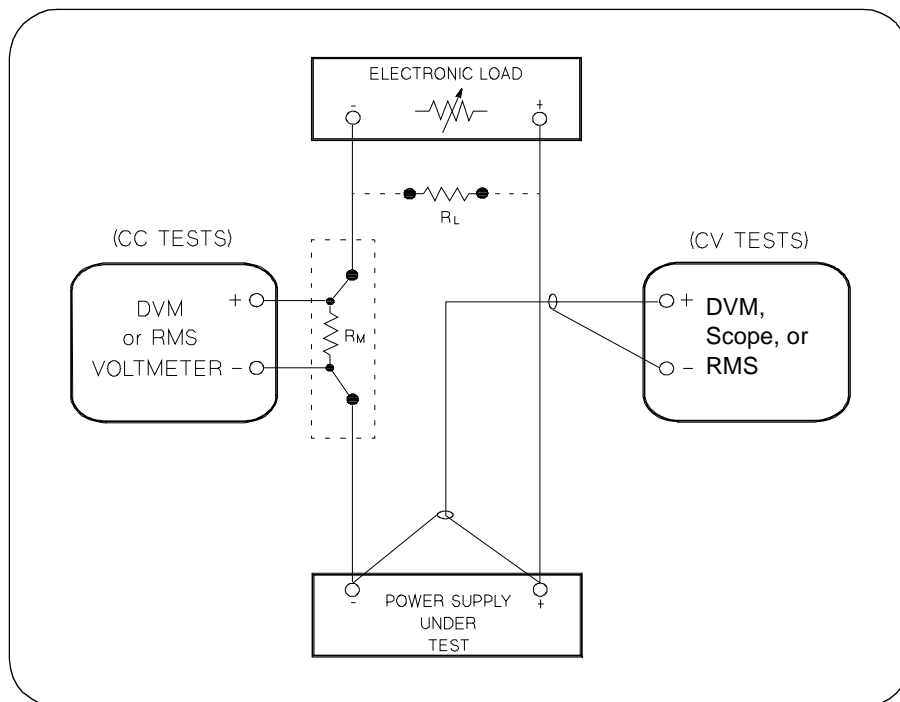

Figure A-1 Performance Verification Test Setup
Most tests are performed at the front terminals as shown in Figure A-1. Measure the dc voltage directly at the (+) and (-) terminals on the front panel.
To eliminate output current measurement error caused by the voltage drops in the leads and connections, connect the current monitoring resistor between the (-) output terminal and the load as a four-terminal device. Connect the current-monitoring leads inside the load-lead connections directly at the monitoring points on the resistor element (see R_M in Figure A-1).
- 1 Turn off the power supply and connect a digital voltmeter between the (+) and (-) terminals of the output to be tested as shown in Figure A-1.
- 1 Turn off the power supply and connect a digital voltmeter between the (+) and (-) terminals of the output as shown in Figure A-1.
- 4 Operate the electronic load in open mode (input off). Record the output voltage reading on the digital voltmeter immediately. The difference between the digital voltmeter readings in steps (3) and (4) is the CV load regulation. The difference of the readings during the immediate change should be within the limit of (5 mV)* or (9 mV)**.
- 6 Adjust the transformer to high line voltage (127 Vac for nominal 115 Vac, 110 Vac for nominal 100 Vac, or 253 Vac for nominal 230 Vac). Record the voltage reading on the digital voltmeter immediately. The difference between the digital voltmeter readings in steps (5) and (6) is the CV line regulation. The difference of the readings during the immediate change should be within the limit of (5 mV)^{*} or (9 mV)^{**}.
- 1 Turn off the power supply and connect the output to be tested as shown in Figure A-1 to an oscilloscope (ac coupled) between (+) and (-) terminals. Set the oscilloscope to AC mode and bandwidth limit to 20 MHz. Connect a resistive load (13.5Ω)[‡] to the terminal at (B) as shown above.
- 1 Turn off the power supply and connect the output to be tested as shown in Figure A-1 with an oscilloscope. Operate the electronic load in constant current mode.
- 1 Turn off the power supply and connect a 0.01 Ω current monitoring resistor (R_{M1}) across the output to be tested and a digital voltmeter across the current monitoring resistor (R_{M1}) as shown in Figure A-1.